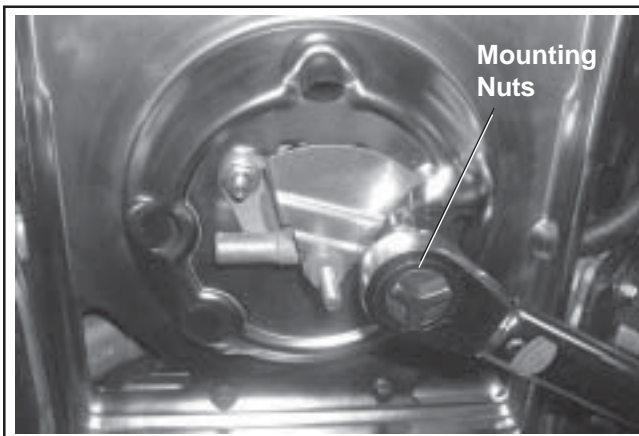

Figure 11-85. Torquing Base and Spitback Cup Mounting Nuts.
2. Position a new gasket and the air cleaner base on the studs while carefully pulling the loose end of the rubber breather hose through the base until properly seated (collars sealed against each side of the base). See Figure 11-85.
3. Secure the air cleaner base and bracket, or spit-back cup with baffle, using the hex flange nuts. If a lower air cleaner bracket is used, install the two M5 screws through the lower section of the base. Torque the hex flange nuts to **6.2-7.3 N·m (55-65 in. lb.)**, and the two lower M5 mounting screws (when applicable) to **4.0 N·m (35 in. lb.)**, See Figures 11-85 and 11-86.